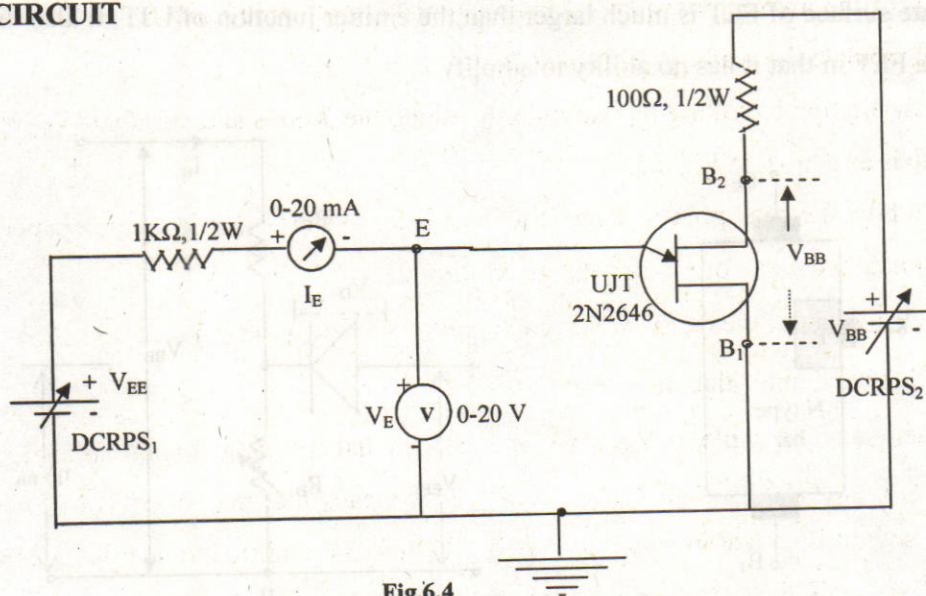

Fig.6.4
3. To estimate the value of η (Intrinsic stand off ratio), connect the given UJT in the circuit with all the necessary components as shown in the Fig.6.4.